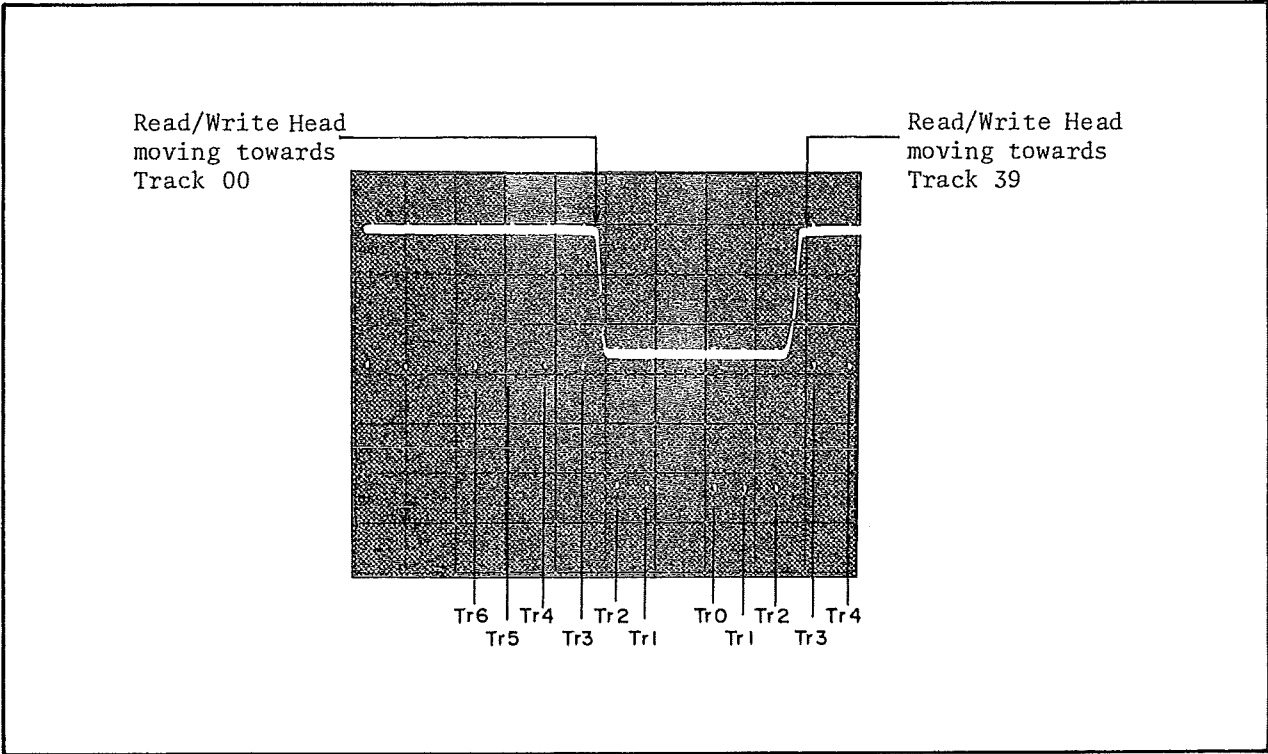

Figure 5-33. Scope Display of Track Zero Switch Switching.
8. Observe and verify that the track zero switch operates between track 02 and track 03 when the Read/Write head moves towards track 39, and between track 03 and track 01 when the Read/Write head moves towards track 00 (see Figure 5-33). If the track zero switch is working properly, step 8 is not necessary.